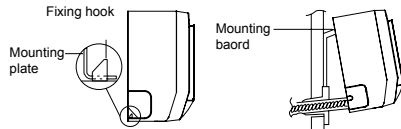

Fig.18
(3) Hange the mounting slots of the FCU on the upper tabs of the rear panel and check if it is firm enough.(As show in Fig.18)
(4) The height of the installed location should be 2.5m or more from the floor.